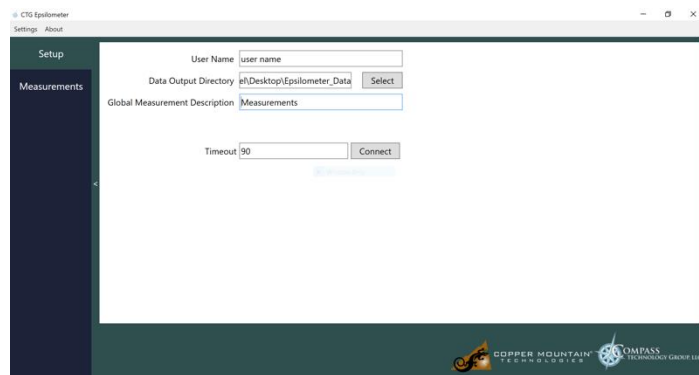

Figure 4. Initial “Setup” Screen
2. Open CTG Epsilon software by double-clicking the CTG Epsilon icon  on your desktop. An initial “Setup” screen will appear. (Figure 4)